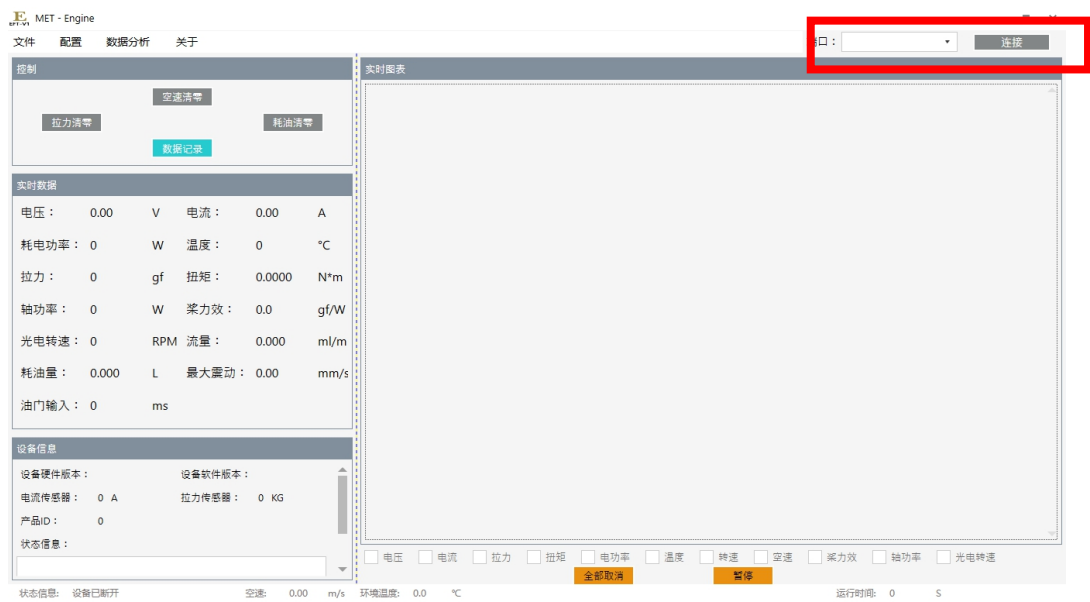

Fig.3.2.2 Software Connection
(4).Software Connection: Open the software, user will see the COM XX, then click "Connect". Connection succeeded when hearing “Di”, as shown in Fig. 3.2.2